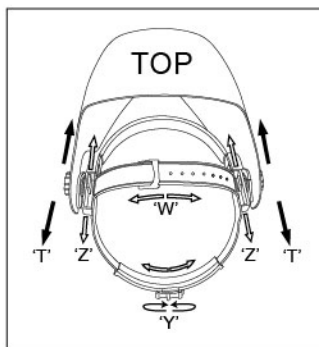

Figure.7
See Figure.7. The overall circumference of the headband can be made larger or smaller by rotating the knob (Y) on the back of the headband. This can be done while wearing the helmet and allows just the right tension to be set to keep the helmet firmly on the head without it being too tight.
See Figure.7. Undo the block nut (T) to adjust the distance between the helmet (in the down position) and your face. Loosen the block nut on either side of the helmet and slide it nearer or further from your face (Z). It is important that your eyes are each the same distance from the lens. Otherwise the darkening effect may appear uneven. Re-tighten the block nut when adjustment is complete.